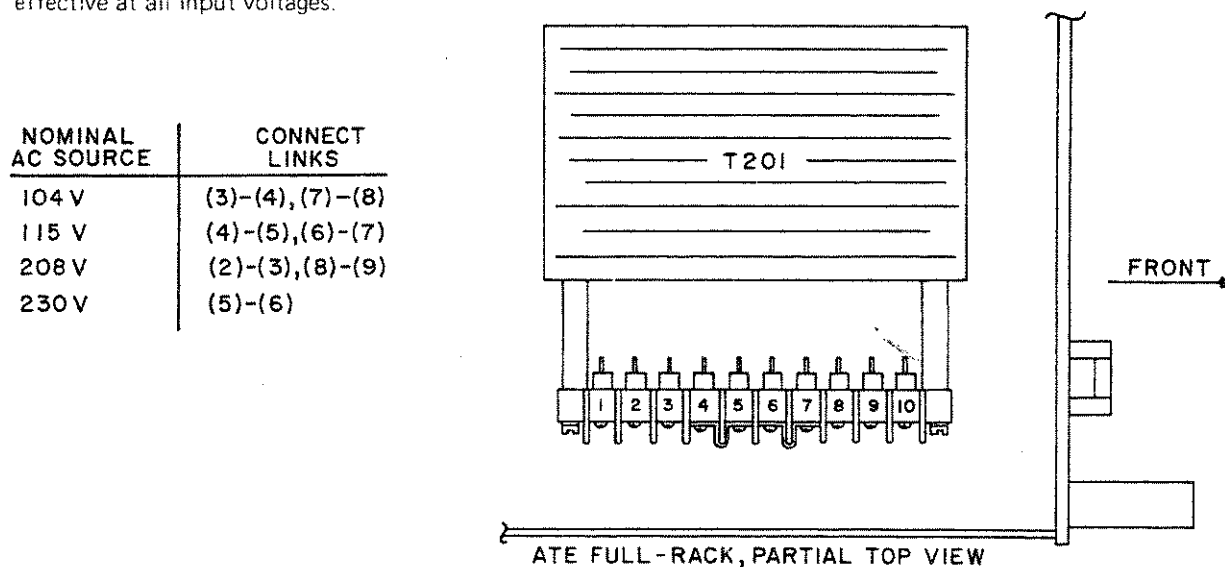

FIG. 2-4 A-C INPUT SOURCE VOLTAGE SELECTION, ATE FULL RACK GROUP.
- 2-5 This power supply is normally supplied for operation on a single phase, nominal 115V a-c line. For conversion to other a-c source voltages, refer to FIG. 2-4. Select your nominal source voltage and change the links on the barrier strip of T201 according to the table provided in FIG. 2-4. The circuit breaker (CB101) remains equally effective at all input voltages.